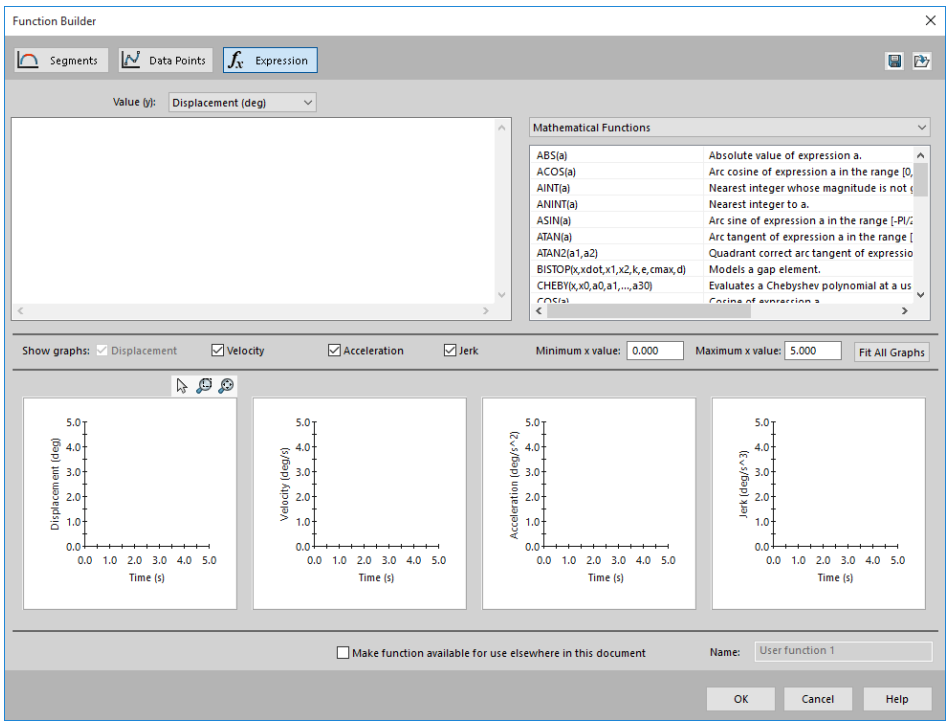

Figure 20-13 The **Function Builder** dialog box with the **Expression** button chosen
**Expression:** Using this option, you can create a mathematical function for specifying the motor speed. On selecting this option, the **Function Builder** dialog box will be displayed with the **Expression** button chosen, refer to Figure 20-13.